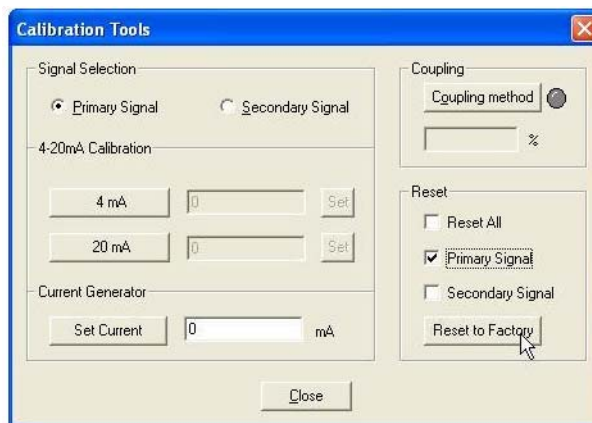

Figure 244 Selecting Reset AO Main
2. Click **Reset to Factory** (Figure 244).